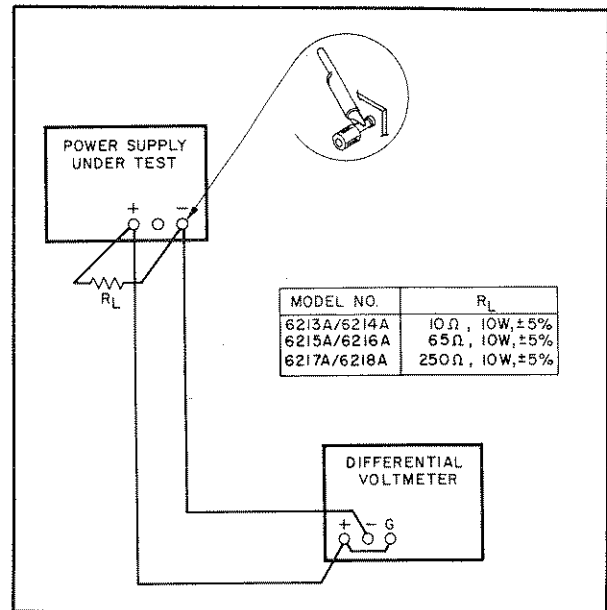

Figure 5-3. CV Load Regulation, Test Setup
- Connect load resistor (R_L), indicated in Figure 5-3, across the output terminals of supply.
- Connect test setup as shown in Figure 5-3.
- Connect test setup shown in Figure 5-3.
- a. Connect the load resistance, attenuator, and differential voltmeter as illustrated in Figure 5-3.